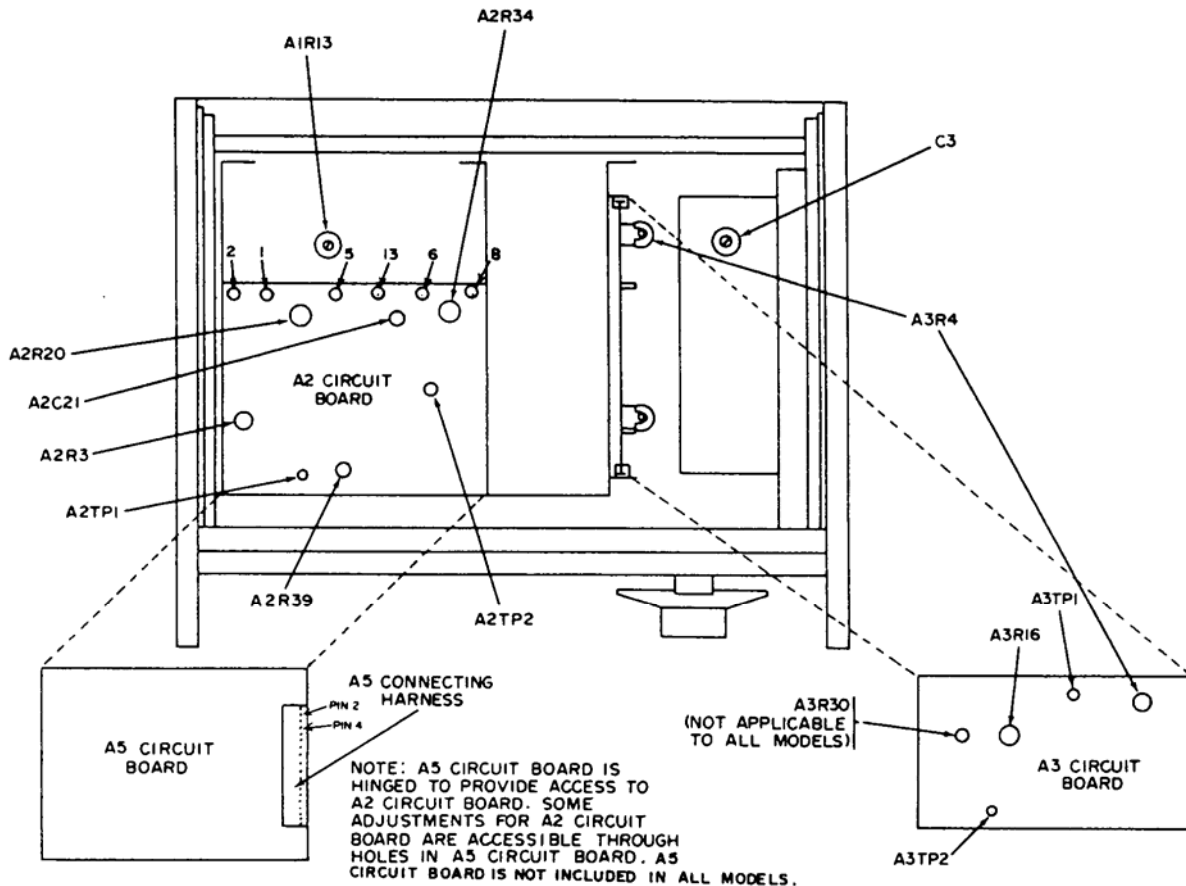
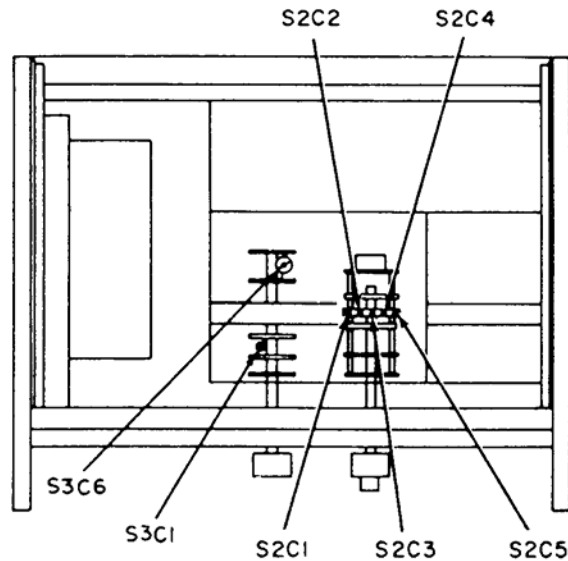

Figure 1. Distortion analyzer - top view.
Figure 2. Distortion analyzer - bottom view.
(2) Adjust A2R34 (fig. 1) for 0.001 V indication on TI voltmeter (R).
(1) Set **METER RANGE** switch to **.01 VOLTS**.
(2) Adjust calibrator frequency to 1 kHz and amplitude for a 0.01 V indication on TI meter. Set the reference level on calibrator by pressing the **NEW REF** key.
(3) Adjust calibrator frequency to 2 MHz and output amplitude for 0.0% error display reading.
(4) Adjust A2R39 (fig. 1) for a 0.01 V indication on TI meter (R).
(5) Adjust calibrator frequency to 3 MHz and output amplitude for 0.0% error display reading.
(6) Adjust A2C21 (fig. 1) for a 0.01 V indication on TI meter (R).
(7) Repeat (3) through (6) above as necessary to correct for any interaction between adjustments.
(8) Set **METER RANGE** switch to **.3 VOLTS**.
(9) Adjust calibrator frequency to 1 kHz and amplitude control for a 0.3 V indication on TI meter. Set the reference level on calibrator by pressing the **NEW REF** key.
(10) Adjust calibrator frequency to 2.5 MHz and amplitude for 0.0% error display reading.
(11) Adjust S3C6 (fig. 2) for a 0.3 V indication on TI meter (R).
(12) Set **METER RANGE** switch to **3 VOLTS**.
(13) Adjust calibrator frequency to 1 kHz and amplitude control for a 3 V indication on TI meter. Set the reference level on calibrator by pressing the **NEW REF** key.
(14) Adjust calibrator frequency to 200 kHz and output amplitude for 0.0% error display reading.
(15) Adjust S3C1 (fig. 2) for a 3 V indication on TI meter (R).